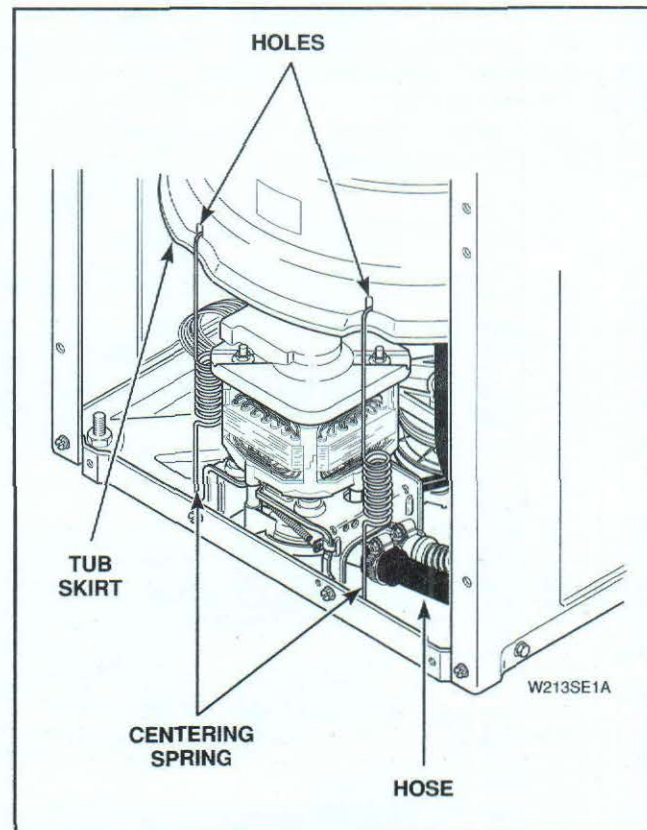

Figure 48
- p. Using No. 289P4 Spring Hook Tool, unhook seven centering springs from lower edge of outer tub, *Figure 48*.
- Using No. 289P4 Spring Hook Tool, unhook seven centering springs from lower edge of outer tub, *Figure 48*.